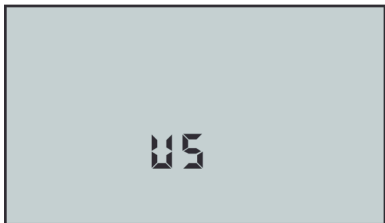

Figure 16
3. Press $\frac{CAL}{MCLR}$ to change. Display will now indicate other format (see Figures 16 & 17).